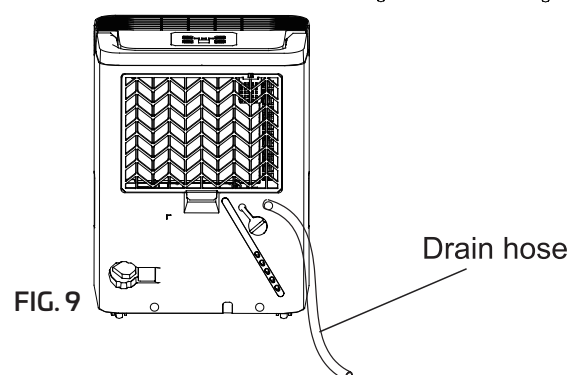

FIG. 9
- Remove the rubber plug from the back drain hose outlet. Attach a drain hose(ID=13.5mm) and lead it to the floor drain or a suitable drainage facility(see Fig. 9).